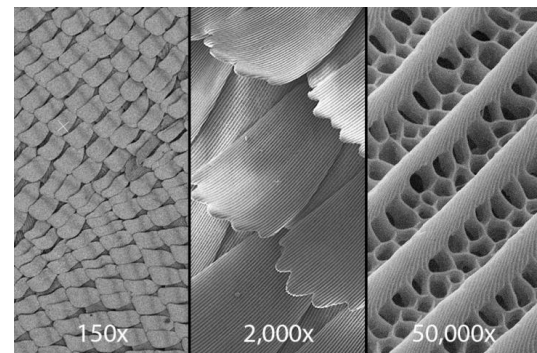

Figure 4 – magnified images of butterfly wing using an SEM (19)
The male Rose butterfly, also known as the Black butterfly (*Pachliopta aristolochiae*) is mainly found in Asia, being the most common butterfly in India. As butterflies are ectothermic, they are dependent on external heat from the sun to warm up their muscles in order to take flight (13). Owing to this, the Black butterfly has adapted its wings to absorb as much sunlight as possible. Firstly, the wings are matte black, the optimum colour for light absorption, as black can absorb all wavelengths of light and will reflect almost none, hence more light energy can be radiated out as heat. The wings were also discovered to have nanostructures on their scales using a scanning electron microscope (SEM). Figure 4 shows this structure, captured by an SEM. From images like this, scientists were able to distinguish longitudinal ridges at regular intervals spanning the scales connected by horizontal cross-ribs. Together these create a '2D network of disordered nanoholes' that lie above the scale interior. These nanoholes have a mean diameter of 300nm and are randomly distributed on the scales (14).